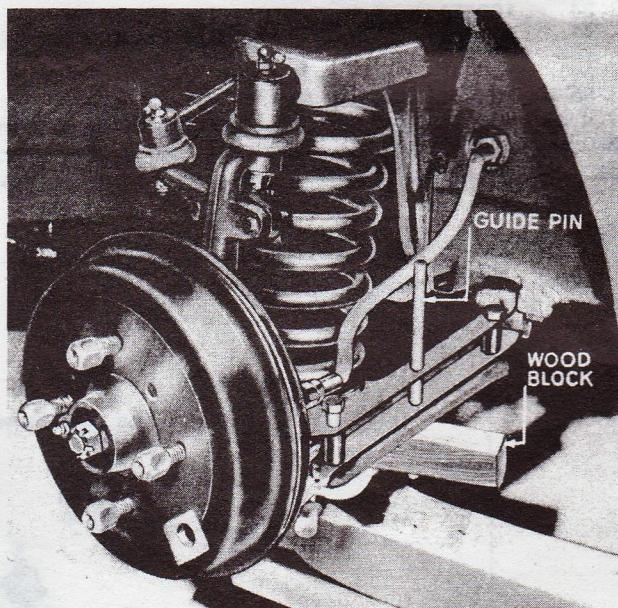

Fig. 3. Method of supporting spring pan whilst removing four outer securing bolts
- (b) Disconnect steering outer tie rod (44) from the steering lever (42).
- (c) Compress front spring (33) by applying a lifting jack under brake drum (5).
- (d) Remove locking nut ($\frac{5}{8}$ " A/F spanner) on the upper end of the shock absorber (35), whilst holding the larger nut on this spindle with a suitably thin spanner ($1\frac{1}{4}$ " A/F).
- (f) The shock absorber (35) can now be driven down through the spring pan (32) with a hide-faced hammer.
- (h) Remove pack and place under centre of spring pan with a suitable packing, as shown in Fig. 3, to provide clearance on the four shock absorber mounting studs. NOTE: One or two guide pins used.
the brakes upon completion of re-assembly and the employment of guide pins as shown in Fig. 3 when fitting the spring and pan.